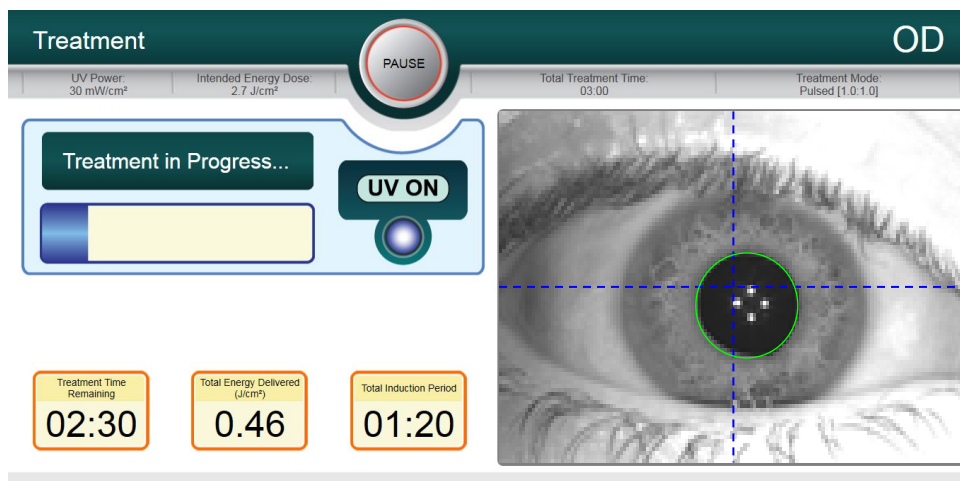

Figure 5-27. Treatment in Progress
- An onscreen treatment tracker shows Treatment Time Remaining, Total Energy Delivered and Total Induction Period. See Figure 5-27.